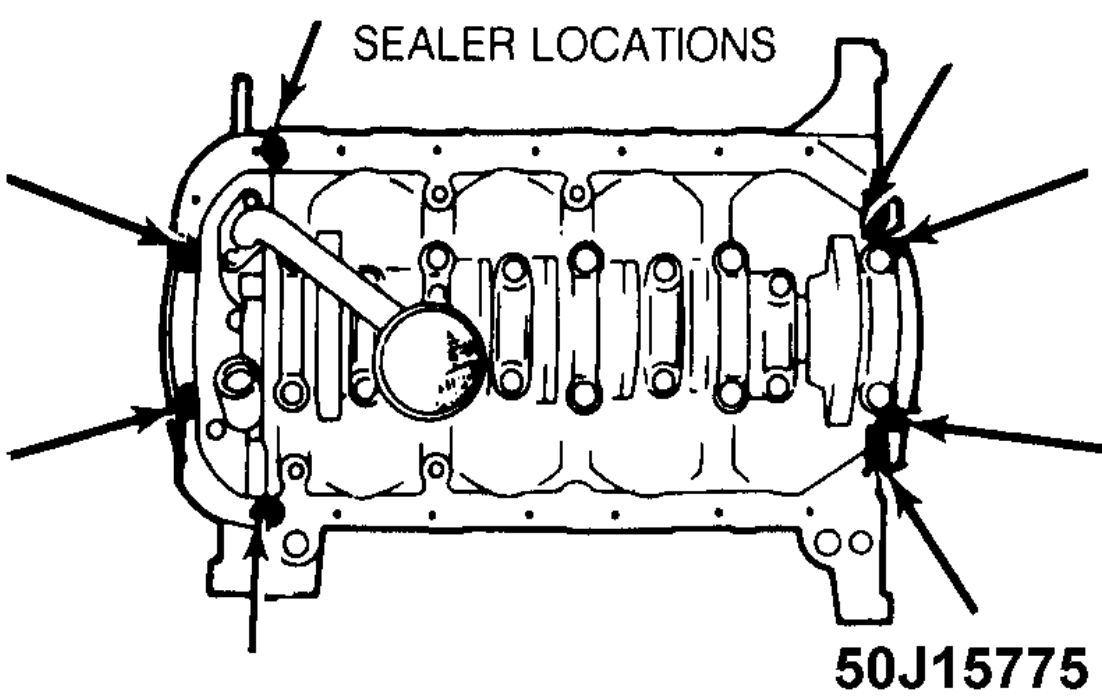

Fig. 8: Identifying Oil Pan Sealing Points
1. Clean pan and block gasket surfaces. Apply Gasket Sealant (E3AZ-19562-A) to new front and rear pan seals. Install seals to cylinder block. Apply Gasket Sealant (E3AZ-19562-A) to oil pan gasket surface. See Fig. 8 . Install oil pan and tighten pan retaining bolts to specification. See TORQUE SPECIFICATIONS table at end of article.